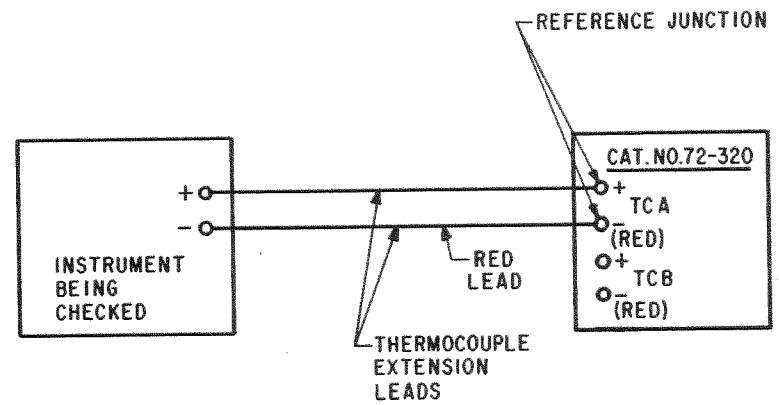

FIGURE 5: CONNECTION FOR CALIBRATING ANOTHER INSTRUMENT
Connect the instrument to be checked to either pair of the 72-320 binding posts (A or B) as shown in Figure 5. When using the TC range of the Test Set, thermocouple extension leadwires of the same type as the instrument calibration must be used to connect the two instruments. Take care to connect the negative thermocouple wire (red) to the (-) terminals of both instruments and the positive wire to the (+) terminals of both instruments.
- (a) Connect the instrument as described in Section G2 and as shown in Figure 5. Use thermocouple extension leadwires.
- (a) Connect the instrument to be checked to the desired binding posts (A or B) of the 72-320 using copper wire and observing proper polarity. See Figure 5.